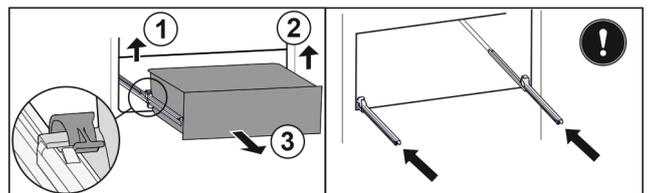

Fig. 125
- ▶ Lift left clamp and simultaneously pull drawer forwards on the left. Fig. 125 (1)
- ▶ Lift right clamp and simultaneously pull drawer forwards on the right. Fig. 125 (2)
- ▶ Remove drawer to the front. Fig. 125 (3)